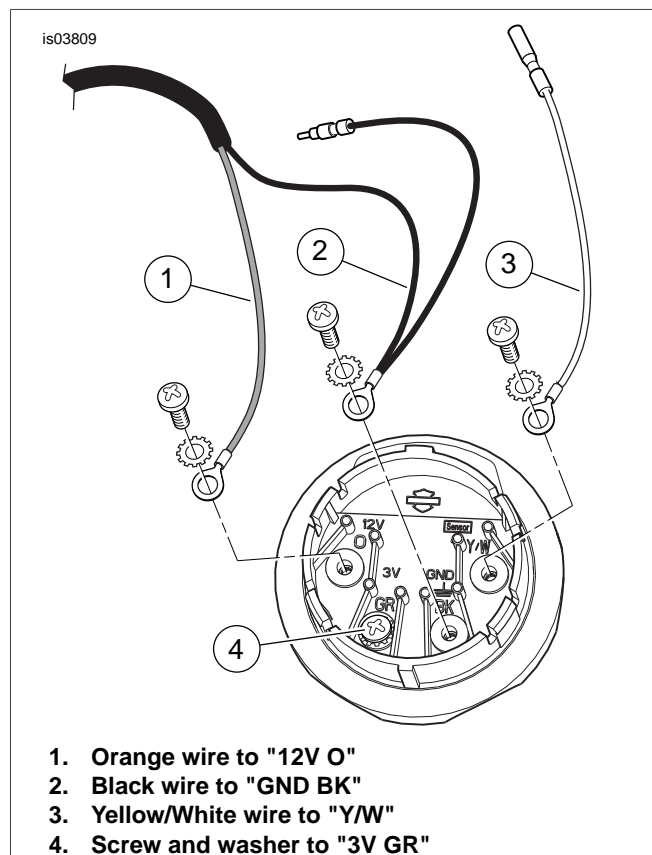

Figure 2. Wire Connections, Kits 75086-04, 75090-04
2. Four Phillips-head screws (11) and four star washers (12) come pre-assembled to the connections on the underside of the gauge. Remove the screws and washers to connect the wires as follows:
See Figure 2. Fasten the Orange wire (1) ring terminal to the gauge connection marked "12V" and "O" with a screw and washer.